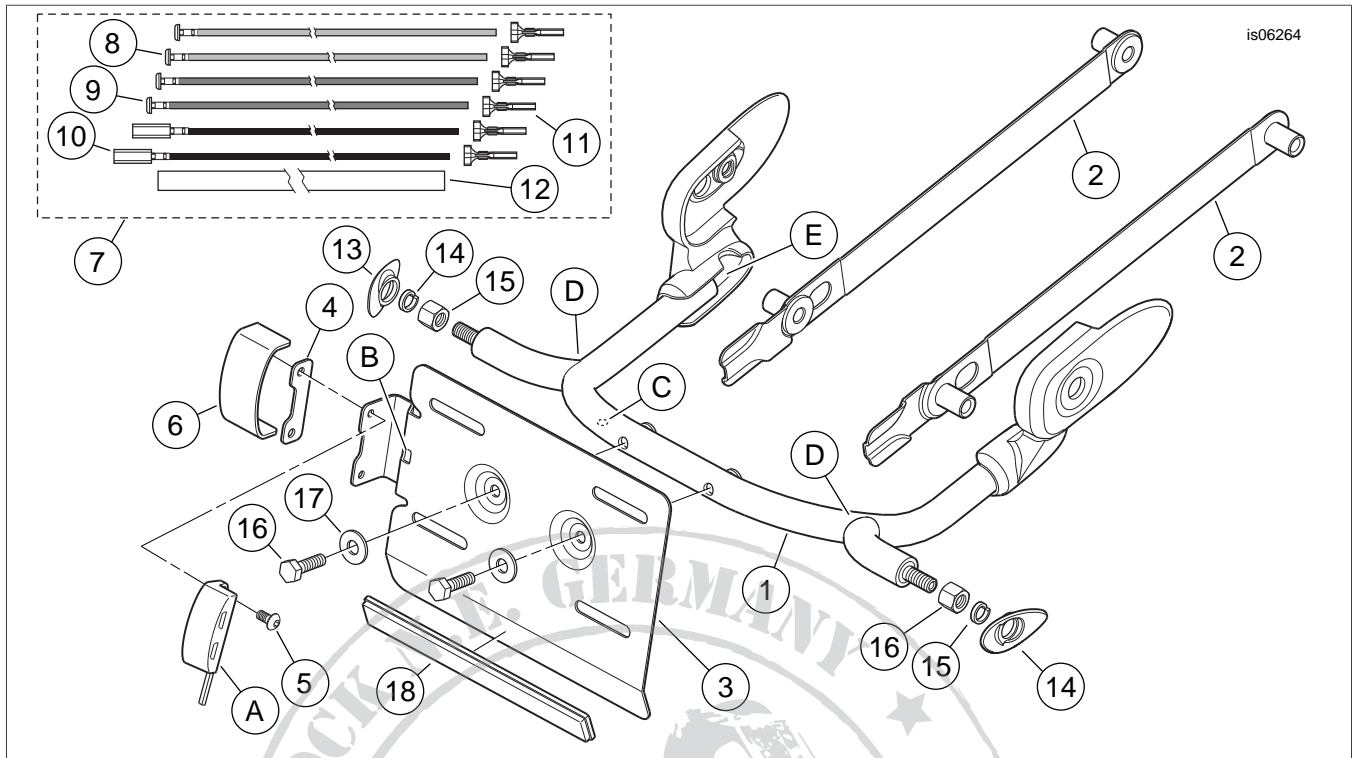

Figure 7. Service Parts, Dyna Rear Stop/Tail/Turn Signal Relocation Kit
14. See Figure 7. Place a lockwasher (14) onto one of the threaded studs on the turn signal relocation weldment. Place a chrome recess cover (13), in the orientation shown, onto the stud.
20. See Figure 7. Get the protective tubing (12) from the kit, and cut into two equal-length pieces.